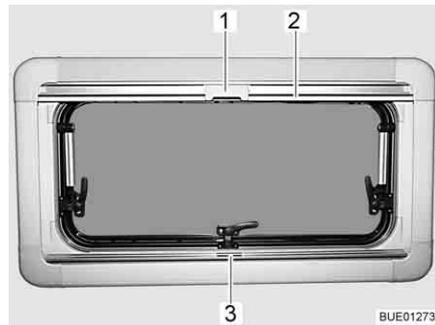

Fig. 110 Hinged window
- Grip the Roman shade in the centre of the holding bar (Fig. 110,3), pull it from the bottom to the top and then release it at the desired height. The Roman shade will stay at this height.
- Pull the insect screen down using the holding bar (Fig. 110,2), until it touches the holding bar of the Roman shade (Fig. 110,3).
- Clip the catch (Fig. 110,1) on the insect screen into the handle of the Roman shade.
- Push the catch (Fig. 110,1) on the insect screen inwards.
- Move the insect screen back slowly on the holding bar (Fig. 110,2).